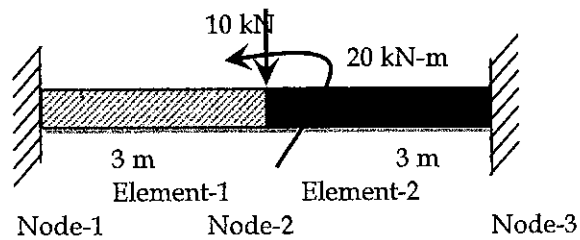

Figure 3: Fixed end beam member
Q.4. Determine the displacement and rotation under the force and moment located at the centre of the beam shown in Figure 3. The beam has been discretized into the two elements, as shown in Figure. The beam is fixed at both ends. A downward force of 10 kN and an applied moment of 20 kN-m act at the centre of the beam. Elastic modulus  $E$  is 210 GPa and Moment of Inertia is  $0.0004 \text{ m}^4$  throughout the beam length. Also plot the nodal forces and moments, which are acting on each element. [7]